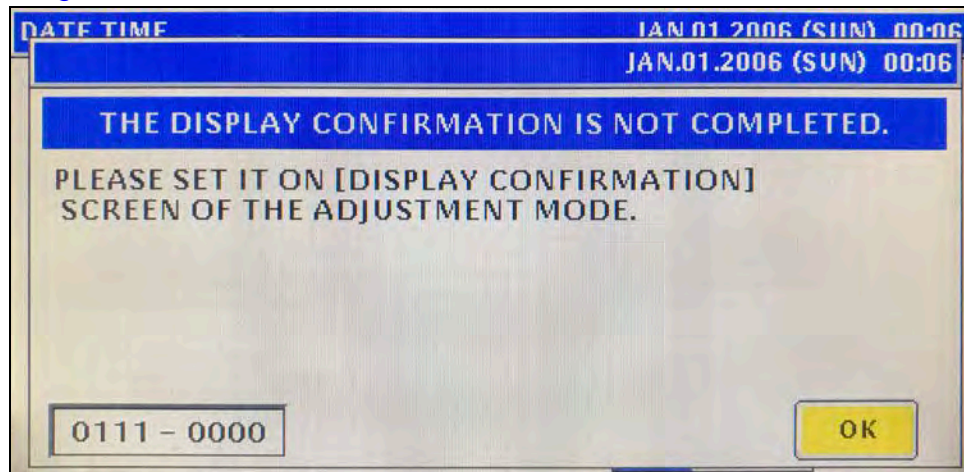

Figure 36. Display Confirmation Required Prompt
25. Press **OK** at the 0111-0000, The Display Confirmation Is Not Completed screen. See Figure 36.